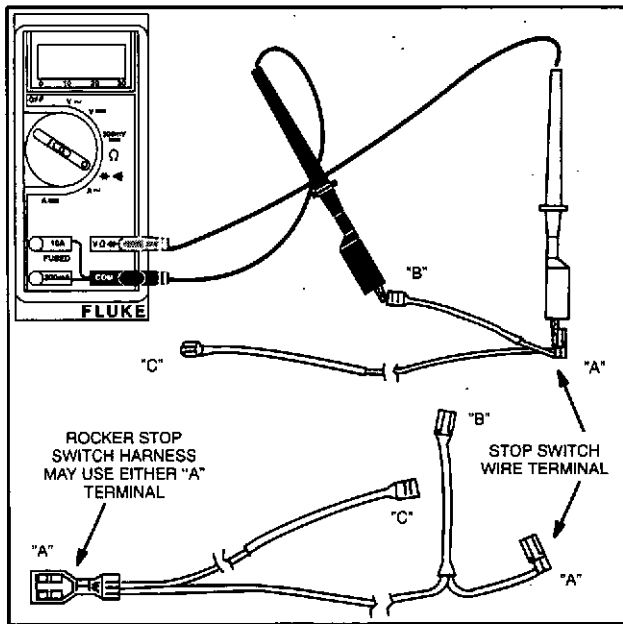
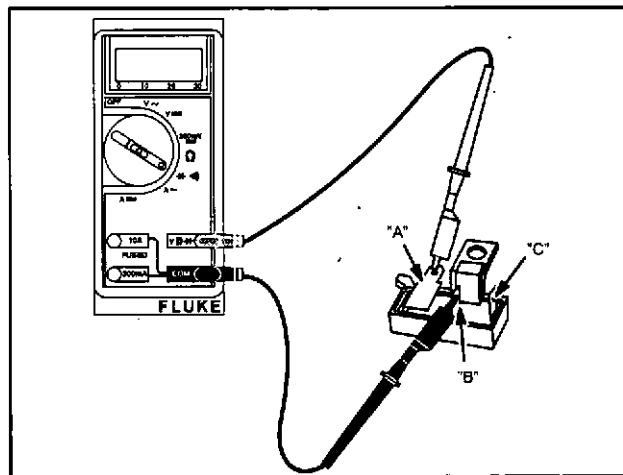

Fig. 18 - Testing Ground Wire Harness - Current Style
Fig. 19 - Testing Ground Terminal - Early Style
- Attach RED test lead clip to terminal "A" (stop switch wire terminal), Fig. 18, current style or Fig. 19, early style. Leave attached for remainder of test.